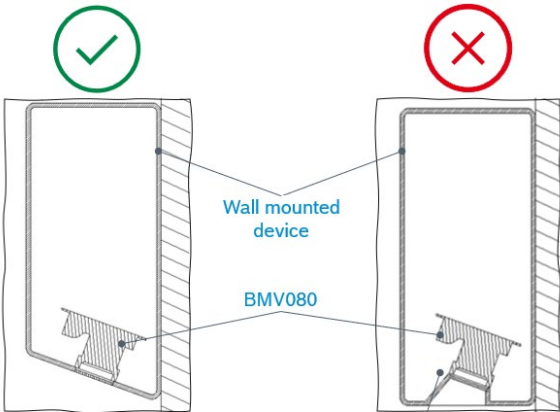

Figure 15: Schematic of BMV080 (facing down) when mounted closer to wall on host to ensure laminar airflow
- It is recommended to ensure laminar air flow conditions to get best BMV080 sensing performance by following the guideline as per Figure 15